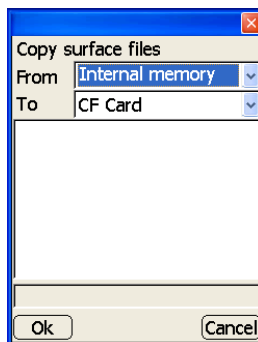

Figure 3-27. Copy Surface Files
- **Copy** – copies a file either from the compact flash card to the internal memory or from the internal memory to a compact flash card. The touch screen lists all files available for copying. To copy a file, select a file, then press **Copy** (Figure 3-27).